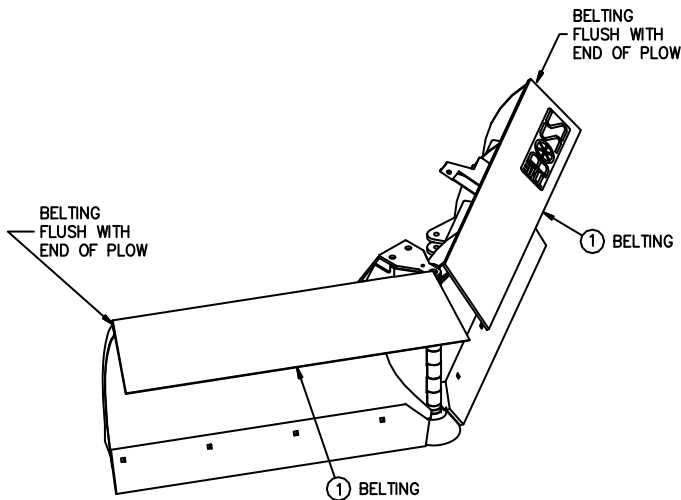

Figure 3. Clamping Orientation.
- 2) Clamp the two pieces of Belting (1) to the plow as shown in Figure 3. The factory cut edges of the Belting must be flush with the outside edges of the plow.